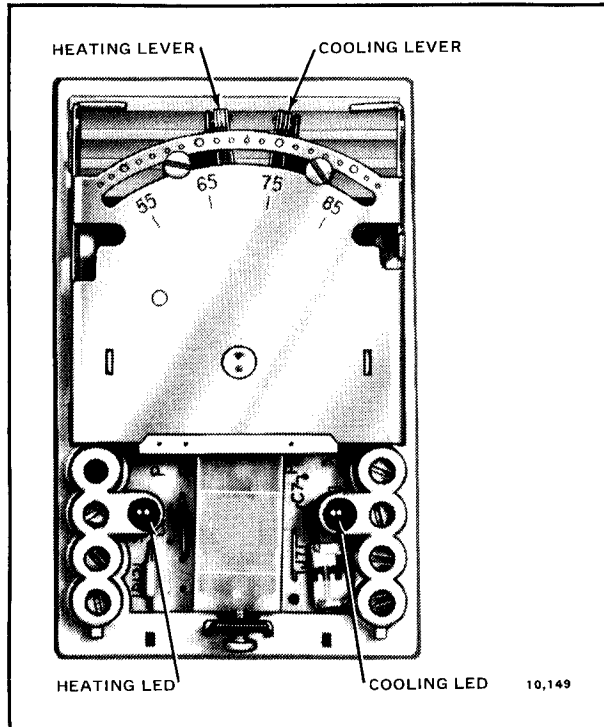

FIG. 13—T7067 THERMOSTAT (COVER REMOVED).
3. Remove cover from T7067 thermostat; note red diagnostic light emitting diodes (LED's). See Fig. 13.